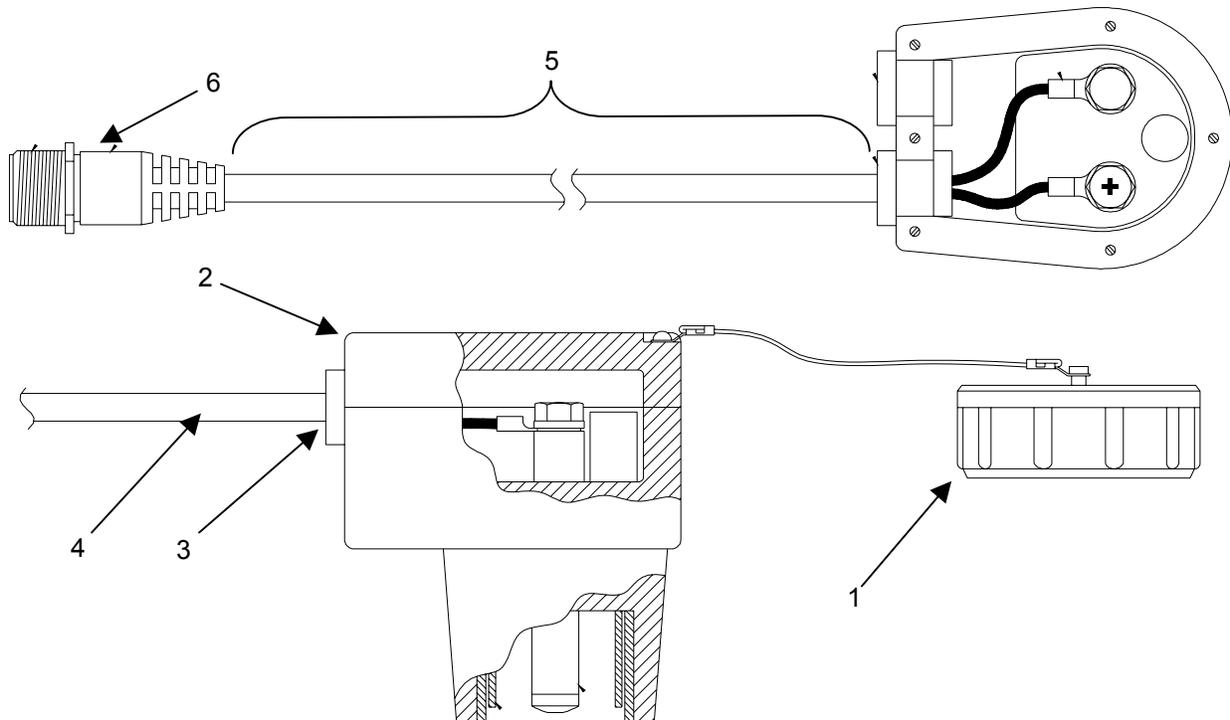

Figure 1. Inspect the NATO Adapter Cable
1. Remove the outer cap (**figure 1, item 1**) of the large power connector (**figure 1, item 2**) and inspect the interior surfaces for any dirt, damage, or corrosion that would prevent a good electrical connection.
2. Inspect the connection point (**figure 1, item 3**) between the large power connector (**figure 1, item 2**) and the cable (**figure 1, item 4**) for any cracks, separations, or exposed wires. Inspect the length of the cable jacket (**figure 1, item 5**) for any cracks, cuts, or other damage that would expose the inner wires.
3. Inspect the small power connector (**figure 1, item 6**) for any cracks, dents, or damage to the outer collar that would prevent a proper and secure electrical connection.
4. Inspect the interior surfaces of the connector (**figure 1, item 6**) for dirt or damage to the internal contacts.
5. Ensure that the outer cable jacket (**figure 1, item 5**) is securely attached to the connector and that there are no exposed wires.